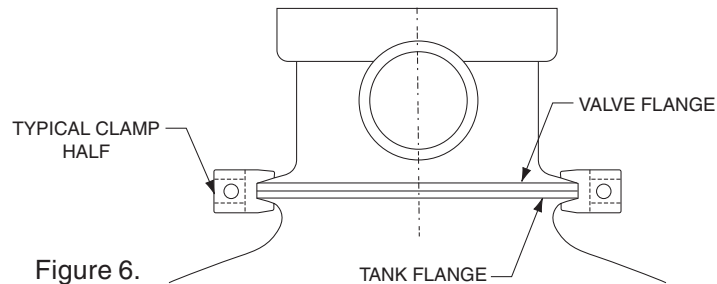
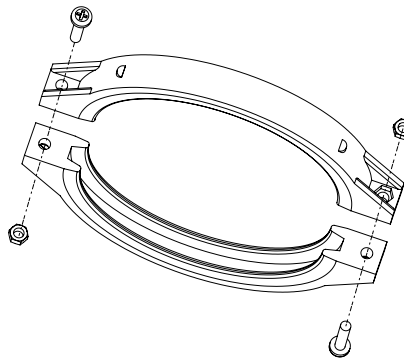

Figure 6.
Figure 7.
7. Be sure that the valve is firmly pushed into the top of the tank and that the flange of the tank and the flange of the valve are contacting each other. See Figure 6.
8. The plastic clamp can now be installed. Place the clamp half over the valve flange and the tank flange as shown in Figure 6. Insert the valve screws and nuts into the clamp half making sure that the nuts are located in the special hexagonal retainer slots on the clamps. See Figure 7.